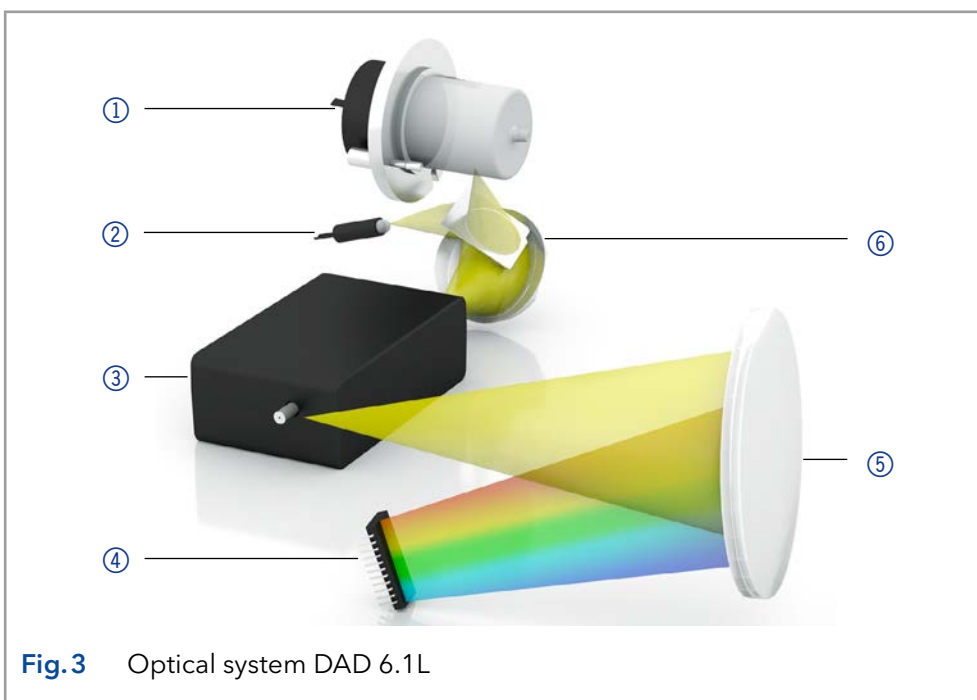

Fig.3 Optical system DAD 6.1L
- The optical system of the DAD 6.1L is depicted in figure 3. An active temperature control with 0.5 °C sensitivity ensures baseline stability for minimal baseline drift.